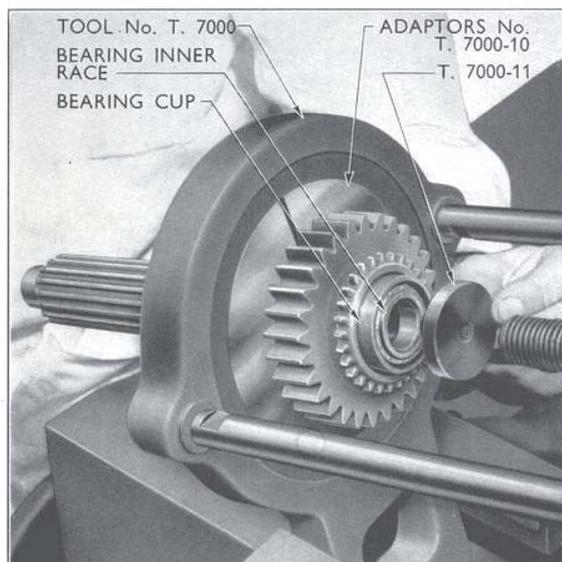

Fig. 21
*the main shaft. With the main shaft assembly in Tool No. T.7000 and split adaptors T.7000-10 around the ball bearing, locate thrust pad T.7000-11 in the inner race (see Fig. 21). Press the bearing into position until the cup seats firmly in the bottom of the counterbore. Remove the inner race and assemble to the secondary transmission output shaft as previously described.*